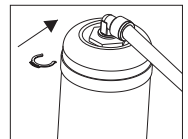

Fig. 4
- 4) Remove old Teflon tape (fig.4).